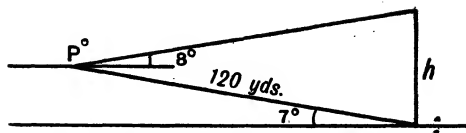

FIG. 106. DIAGRAM FOR EXAMPLE 5
5. A chimney stands on a sloping hill whose gradient is  $7^\circ$  to the horizontal. From a point P 120 yd. up the hill, the angle of elevation of the top of the chimney is  $8^\circ$ , Fig. 106. Find the height of the chimney.